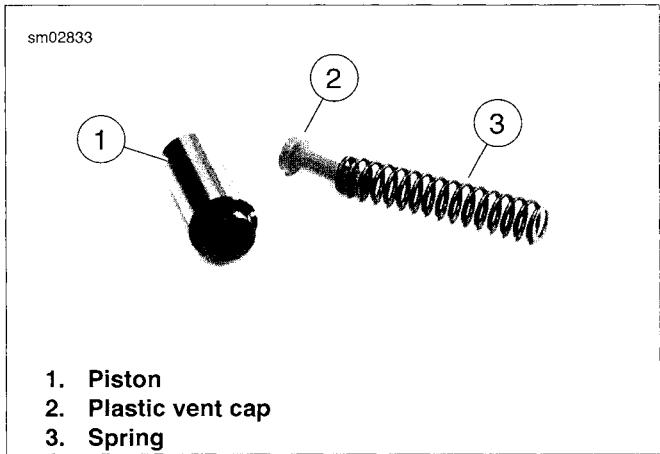

Figure 3-168. Hydraulic Tensioners
2. Check to see if more air is flowing from the front or rear tensioner by placing your hand over the piston while applying compressed air to the interconnect passage. See Figure 3-168. Disassemble components and verify that